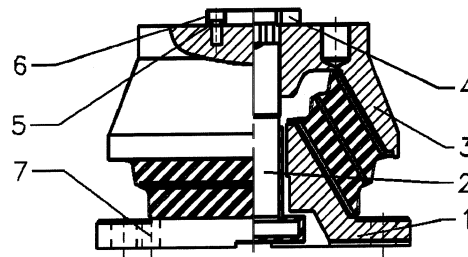

Fig 1. Conical element
1. Fit the conical elements to the bracket on the suspended equipment by means of four bolts screwed into the tapped holes on the top casting(3), see fig 1.
2. Remove fixing bolts(6), spring washer(5) and top lock ring(4) from the conical element, see fig 1.
3. Position the four jacking bolts in the tapped holes(7), in the bottom flange, see fig 1.
7. Turn all the internal buffers(2) in order to check that they move freely, see fig 1.